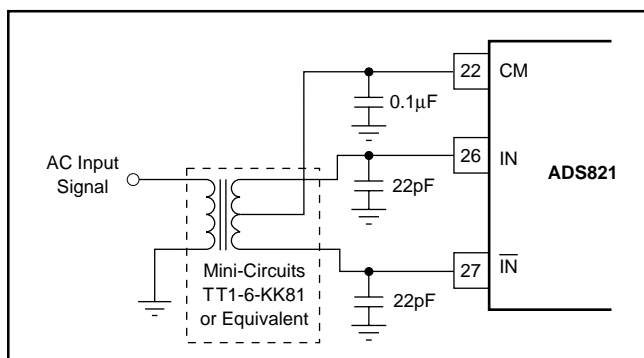

FIGURE 5. AC-Coupled, Single-Ended to Differential Drive Circuit Using a Transformer.
The ADS821 has a differential input with a common-mode of +2.25V. For AC-coupled applications, the simplest way to create this differential input is to drive the primary winding of a transformer with a single-ended input. A differential output is created on the secondary if the center tap is tied to the common-mode (CM) voltage of +2.25V, as per Figure 5. This transformer-coupled input arrangement provides good high-frequency AC performance. It is important to select a transformer that gives low distortion and does not exhibit core saturation at full-scale voltage levels. Since the transformer does not appreciably load the ladder, there is no need to buffer the CM output in this instance. In general, it is advisable to keep the current draw from the CM output pin below 0.5μA to avoid nonlinearity in the internal reference ladder. A FET input operational amplifier such as the OPA130 can provide a buffered reference for driving external circuitry. The analog IN and  $\overline{\text{IN}}$  inputs should be bypassed with 22pF capacitors to minimize track-and-hold glitches and to improve high-input frequency performance.